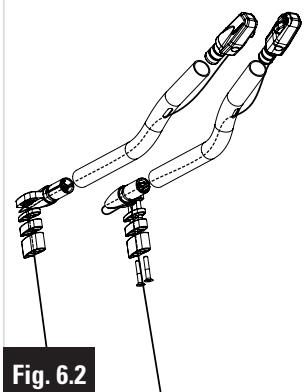
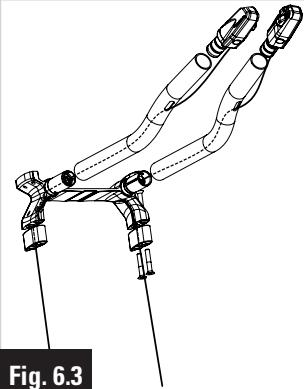

Fig. 6.2
Fig. 6.3
- 2- **Routing the electric wires into the extensions** (optional step, cf. External extension routing box). Feed the shifter connectors into the extension oblongs. Go through the extension support, then the adjustment spacers (fig 6.2). If you are using the BRIDGE, exit directly through the bottom BRIDGE oblongs (fig 6.3).